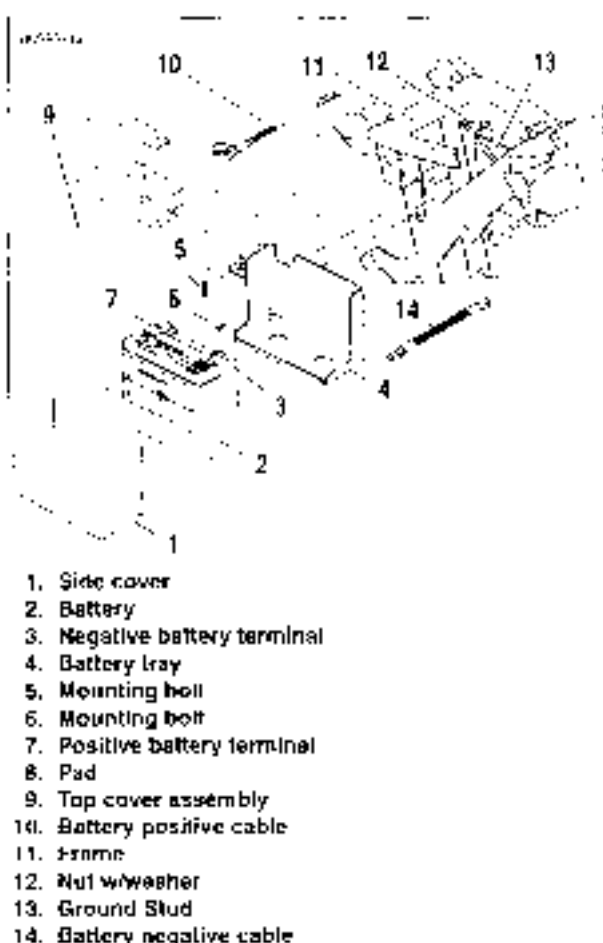

Figure 1-8. Battery Assembly
2. See Figure 1-8. Remove nut (12) from ground stud (13) on frame (11).
3. Remove battery negative cable (black, 14) from ground stud (13).
4. Unbolt and remove battery positive cable (red, 10) from battery positive (+) terminal (7).
5. Remove lower rear bolt (6).
6. Remove upper rear bolt (5). Battery tray (4) will swing down allowing battery tray to be removed.
7. Remove top cover assembly (9).
8. Remove side cover (1) if present.
10. If battery is to be replaced, unbolt and remove battery negative cable (black, 14) from battery negative (-) terminal (3).